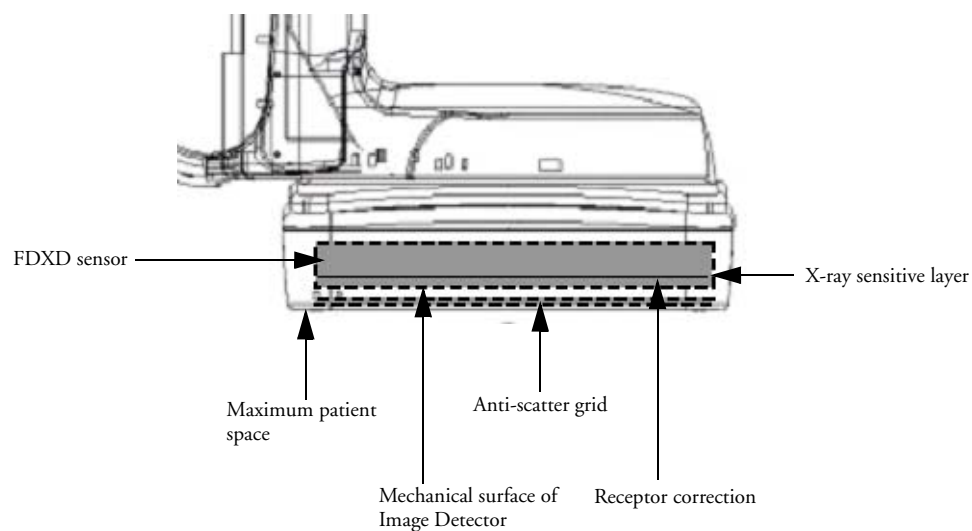

Figure 8.4 Layout of Image Detector and anti-scatter grid
The Patient Space is the distance from the Beam IsoCenter to the surface of the Image Detector, as determined by the edges of the detector, see Figure 8.4. The maximum Patient Space is an indication of the maximum patient-thickness that allows (3)DRA.